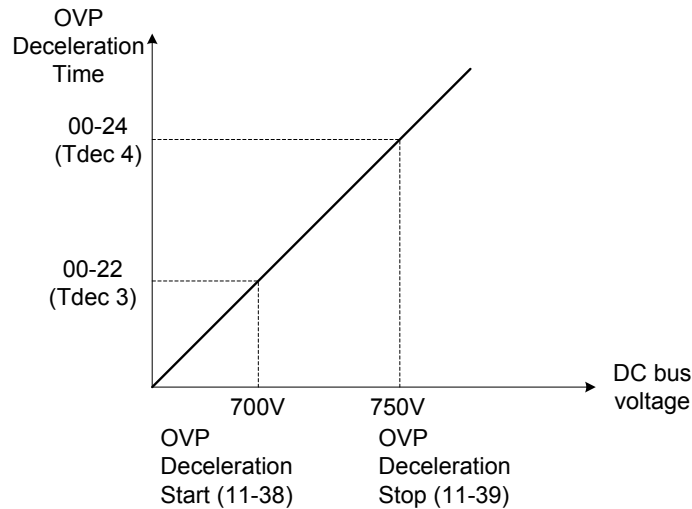

Figure 4.4.92 OVP deceleration time
When the regenerative energy decreases, the inverter output frequency will return to the actual frequency reference. Deceleration rate is based on the DC voltage, as shown in Figure 4.4.92.
3) When the inverter is stopped, the deceleration rate can be set with parameter 00-15 (Tdec1). In case the DC voltage is too high, the inverter will decelerate based on the OVP deceleration time as shown in Figure 4.4.92.